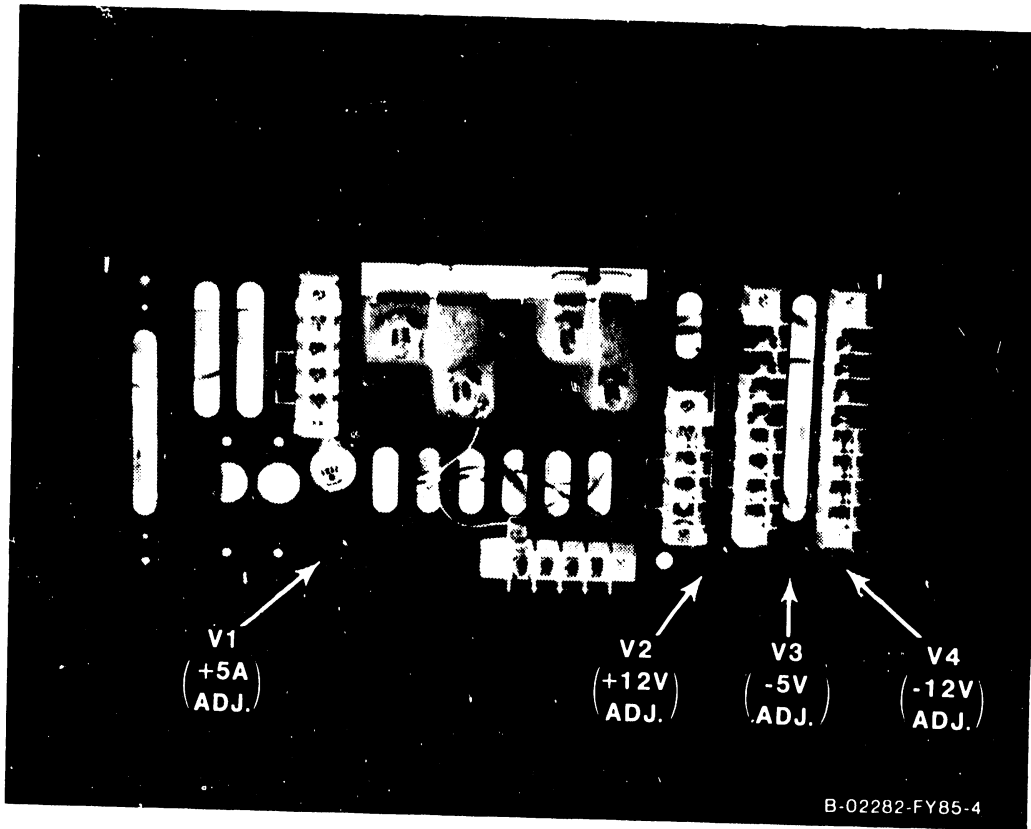

Figure 9-8. Multioutput Power Supply
4. The following power supply voltages should be measured at the test points on the Power Supply Controller. Adjust the voltages to the readings listed below using the potentiometers on the front of the switching power supply at the rear of the mainframe (figure 9-8).